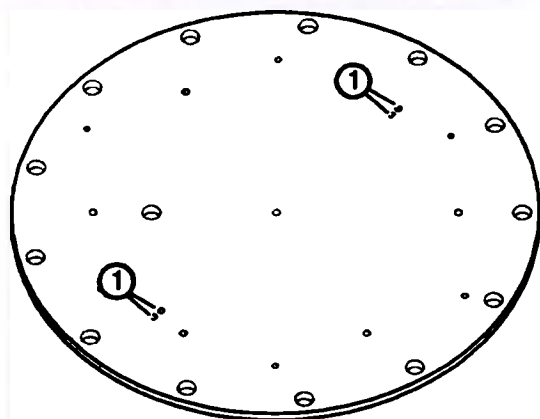

Fig. 3: Floor stand, back of installation plate
The back of the mounting plate for the floor stand can be identified by four blind holes Fig. 3 (1). Place the mounting plate down on its back side.